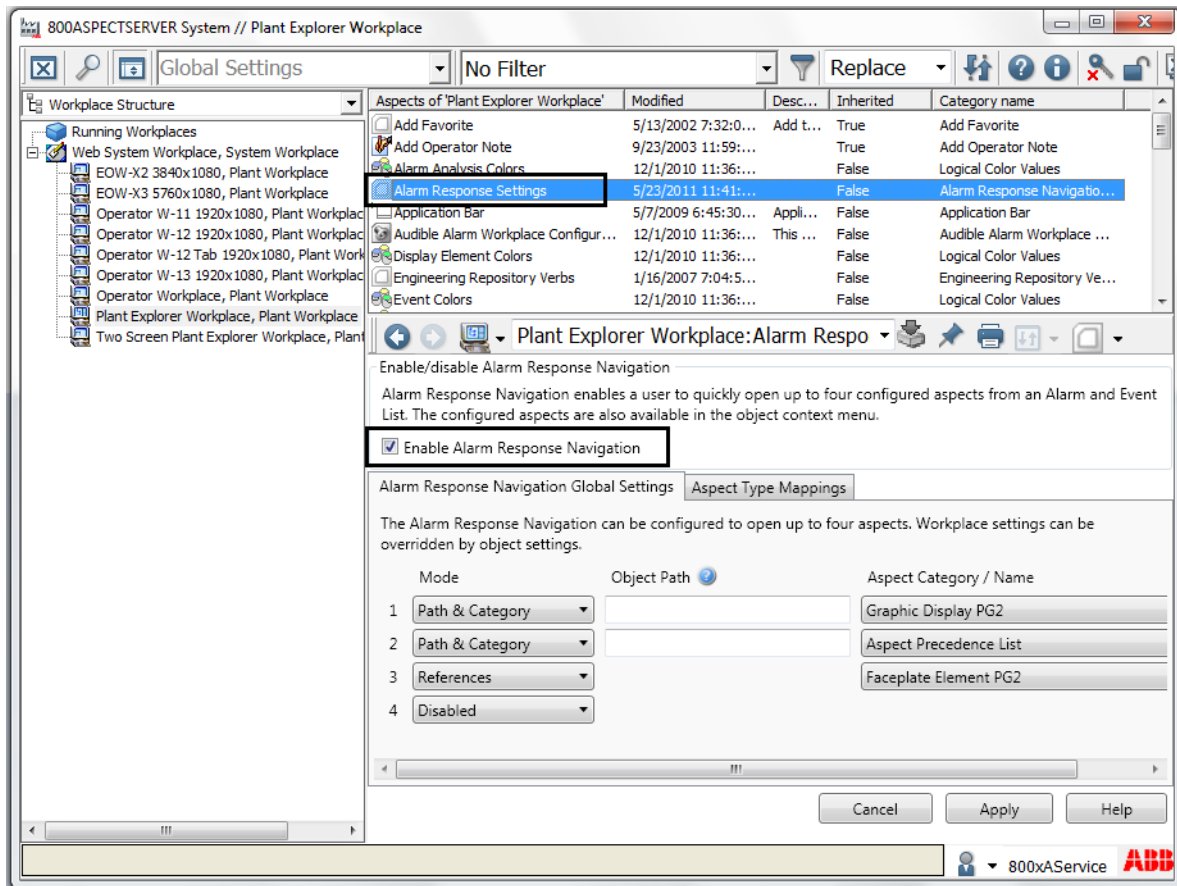

Figure 162. Enabling the Alarm Response Navigation
2. Select the **Enable Alarm Response Navigation** check box (See Figure 162).
By default, the Alarm Response Navigation feature is configured through the **Alarm Response Settings** aspect in **Workplace Structure > Web System Workplace > Plant Explorer Workplace** (see Figure 162).